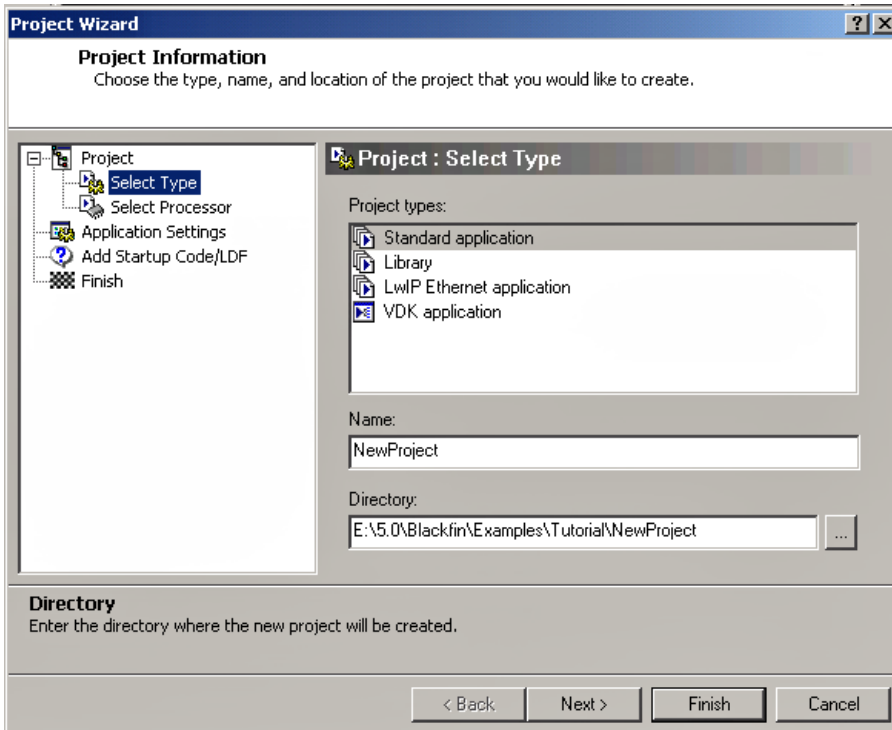

Figure 2-11. Project Wizard – Select Type Page
- From the **File** menu, choose **New** and then **Project** to open the **Project Wizard**, shown in Figure 2-11.